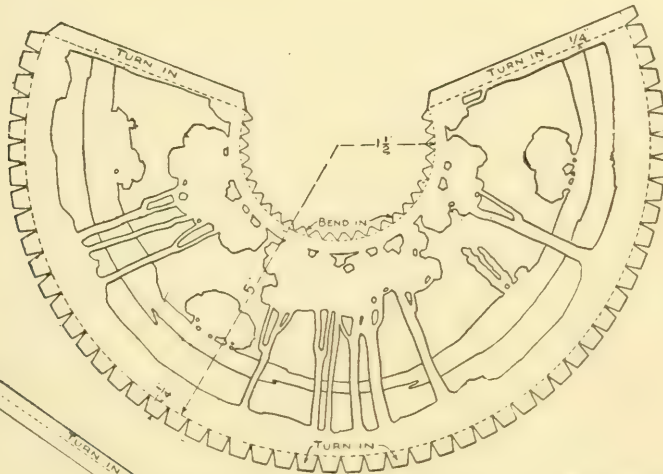

FIG. 288. — Pattern for Circular Candle-shade.
**The Candle-shade** on the candle-stick in Fig. 291 should be laid out by the pattern in Fig. 288. As the landscape design is very simple, it will not be necessary to enlarge it by squares. After piercing and cutting out the piece of brass, snip the top and bottom edges, cutting out small triangular pieces as shown, and then bend over the little flaps thus formed and hammer them down flat against the inside face of the shade. The edge of one end of the piece should also be turned in (see dotted line on pattern), and this should either be lapped over the other edge and the two fastened as described for the other shade, or the other edge should be folded out and one edge hooked into the other as the edges of a tin can are joined, and the two hammered down so as to make